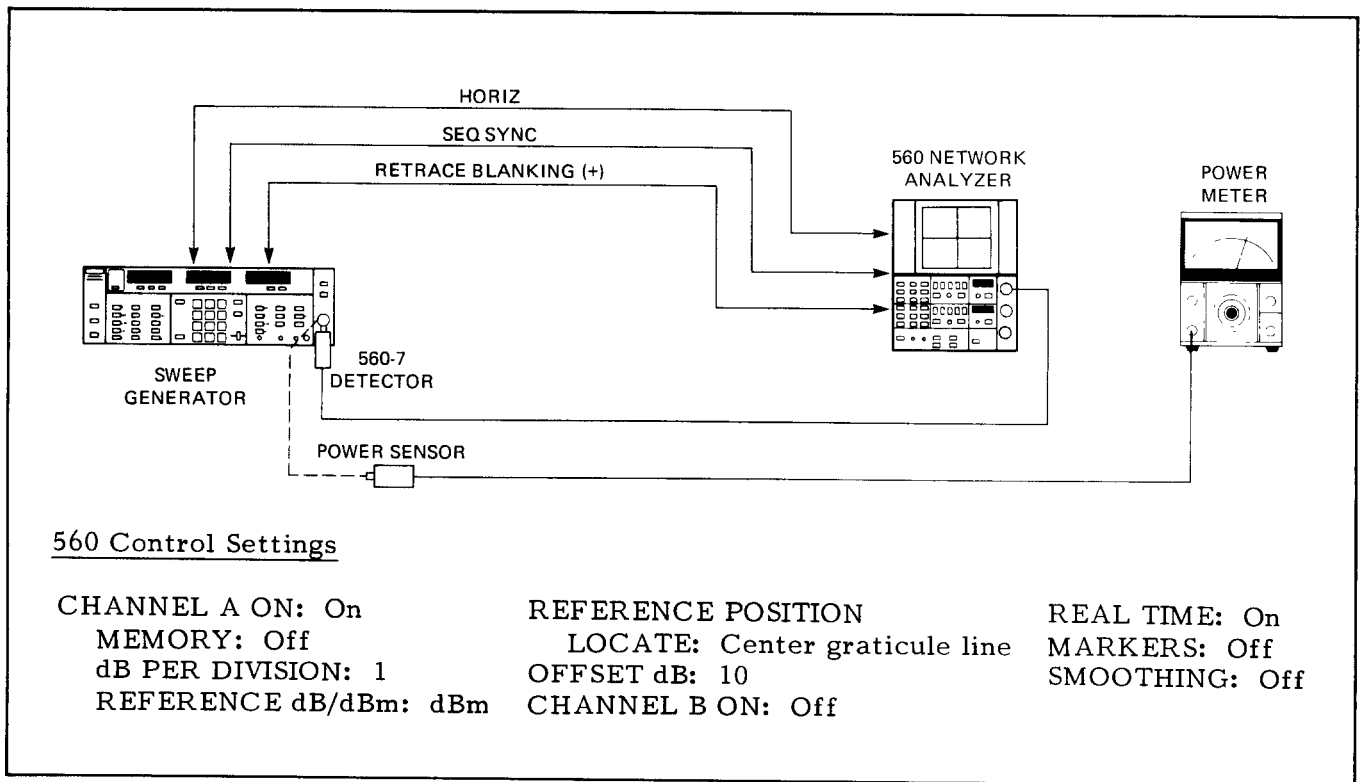

Figure 4-5. Test Equipment Setup for Output Power Tests
- a. Connect test equipment as shown in Figure 4-5, and turn the equipment on.